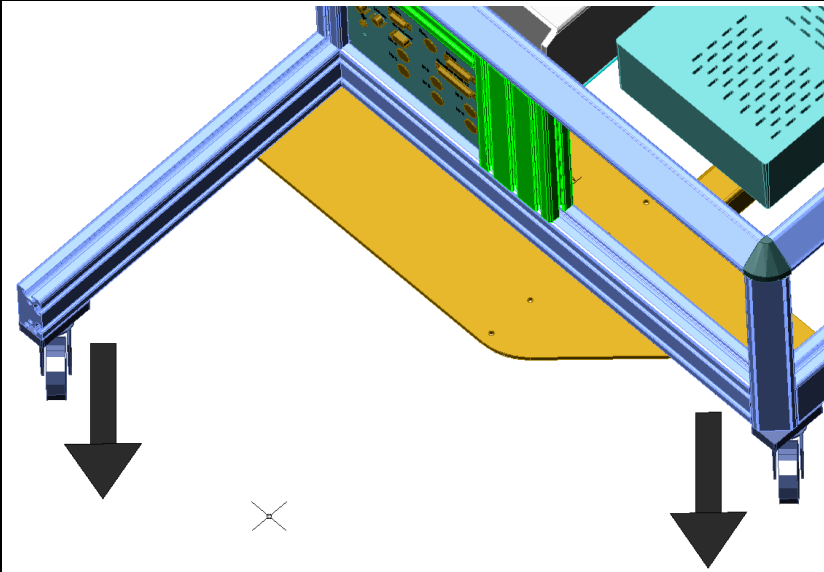
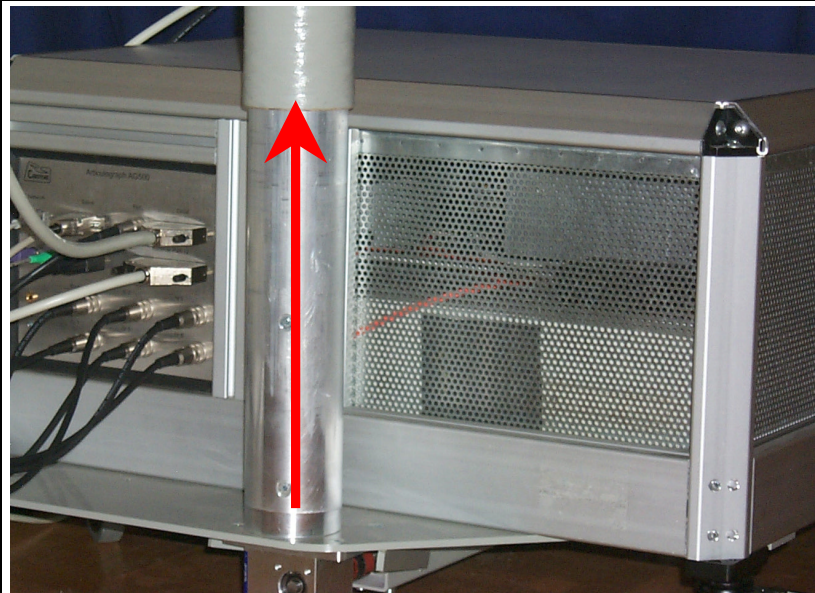

Figure 2:
Figure 3:
Before the circal can be mounted onto the Ema Cube, the stability has to be improved. For this purpose, the wheels are secured in the northwest direction as in Figure 2. The height of the Ema Cube must be lowered, so that the plastic tube does not begin above the carrier (see Figure 3).
- lock the wheels into position (see Figure 2)